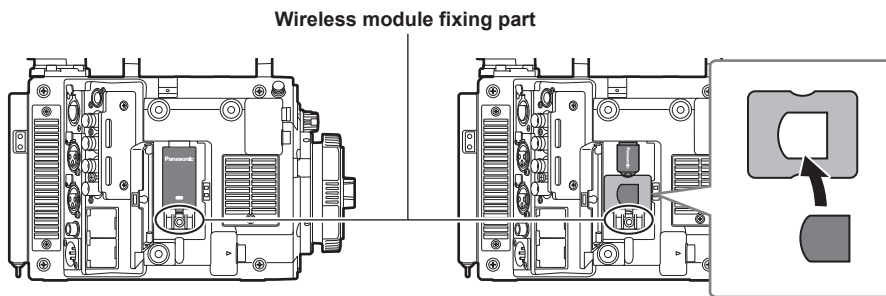

Fig. 4
- 4** (AJ-WM50 only) Place the module holder under the wireless module. (Fig. 4)